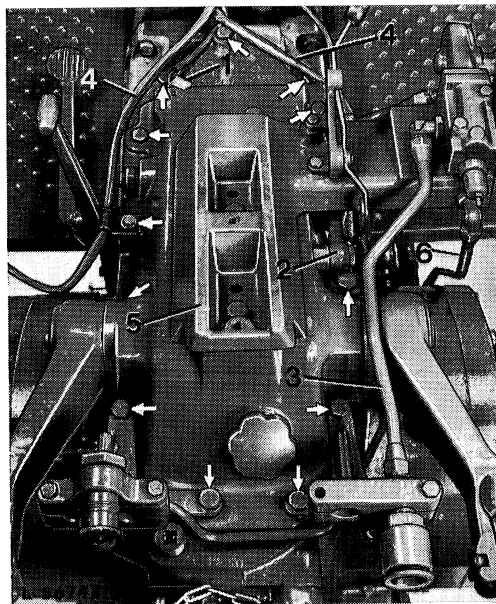

Fig. 9 — Rockshaft, Installed (Earlier Model Shown)
Remove transmission shield. Disconnect cables 1 (figs. 9 and 10) at start safety switch.
*On earlier tractor models:* Disconnect inlet line 6 (fig. 9) of selective control valves (if equipped) at elbow on spacer housing 5 and lines to front quick couplers at selective control valves.